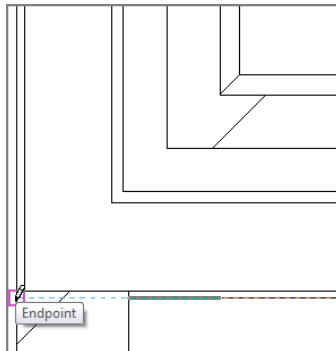

FIGURE 2.49: Adding to the mess in the corner
3. With the Chain button off and Location Line set to Finish Face: Exterior, to start the wall, pick the intersection where the CMU wall abuts the finish inside face of the exterior wall (see Figure 2.49). Again, you can turn on Thin Lines to get a better view of what you're seeing.